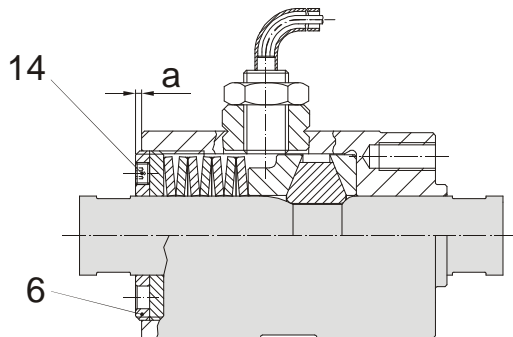

Fig. 4 (sizes 1 – 4)
The force at which the EAS[®]-axial shall disengage (disengaging force) is set by changing the cup spring pretension (7). Adjustment of the correct disengaging force means adjustment of the correct dimension "a" (Figs. 4 and 5). The adjusting diagrams on the pages 7 and 8 show the connection between the dimension "a" and the disengaging force. Please observe that there may be deviations to the values given in the diagram due to tolerances of the structural components. On request the EAS[®]-axial can be supplied pre-set to the required disengaging force.